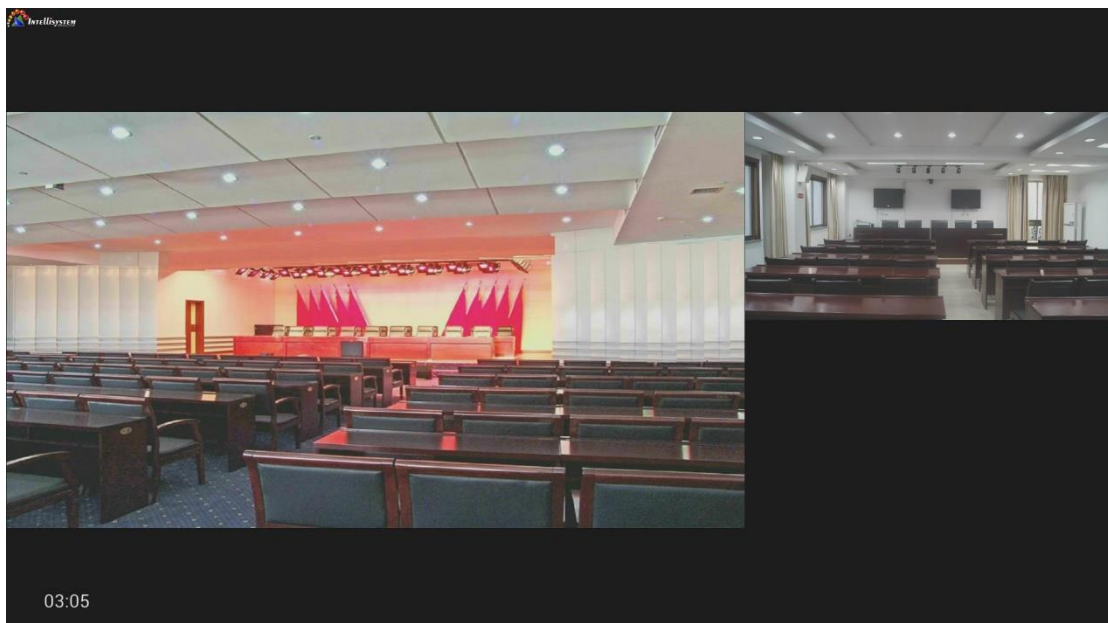

Figure 5-4-2
- Select “Answer” and press OK to answer the call and enter the call status, as Figure 5-4-2 shows, when the call duration will be shown at the left bottom of call interface.